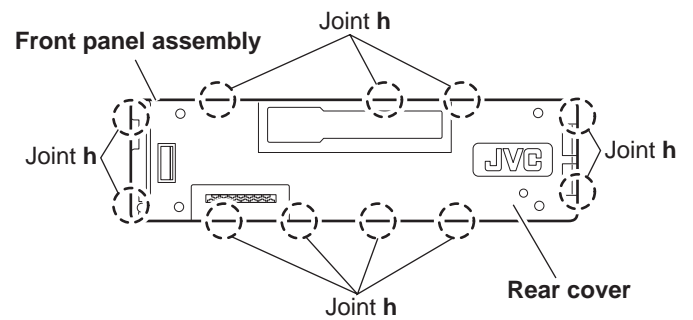

Fig.10
- (2) Release the eleven joints **f**, the front panel and the rear cover become separate. (See fig.10)